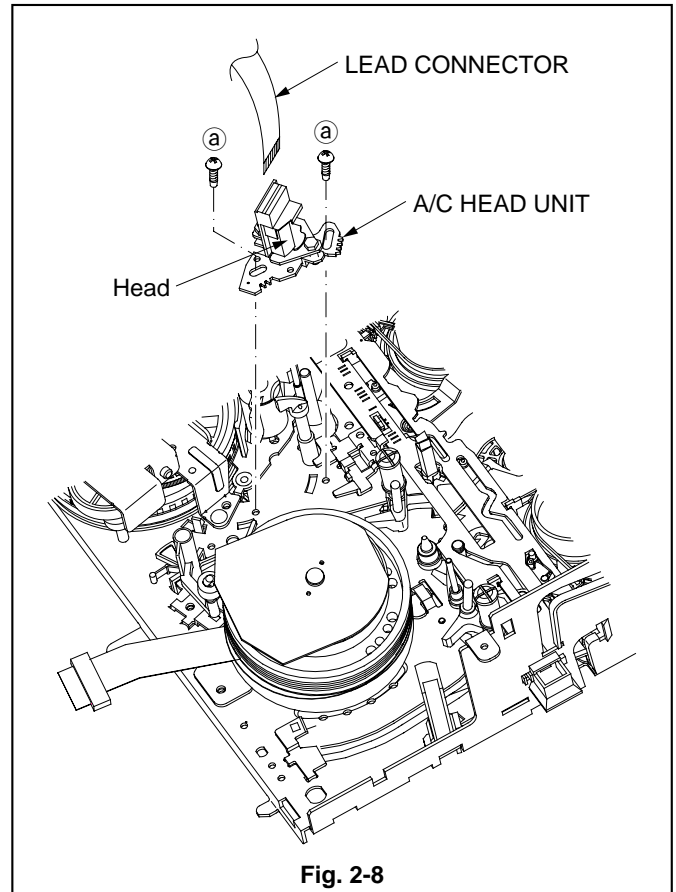

Fig. 2-8
1. Remove the LEAD CONNECTOR of the A/C HEAD UNIT shown in the Fig. 2-8.
2. Remove the two screws (a) fastening the A/C HEAD UNIT shown in the Fig. 2-8 to remove the A/C HEAD UNIT.
1. Install the A/C HEAD UNIT shown in the Fig. 2-8.
Note : Never touch the Head of the A/C HEAD UNIT shown in the Fig. 2-8. Clean the dirt on the Head with alcohol if necessary.
2. Install the LEAD CONNECTOR of the A/C HEAD UNIT shown in the Fig. 2-8.